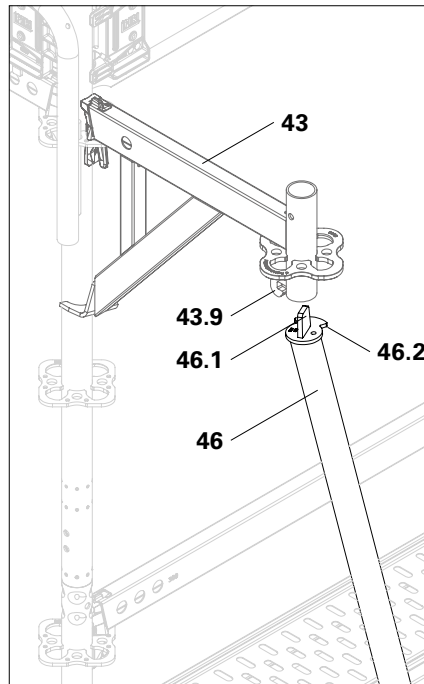
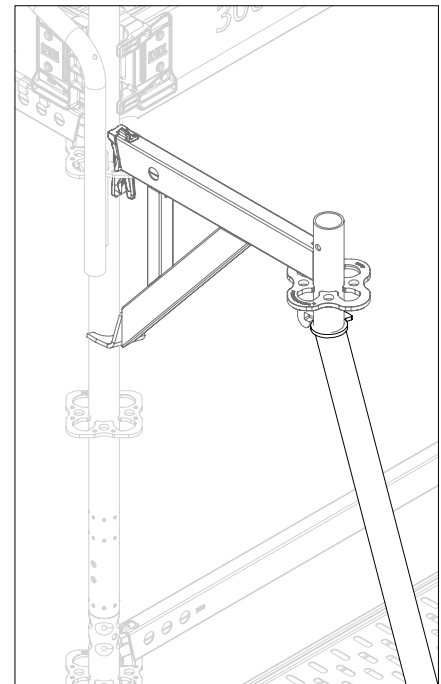

Fig. A6.15a
Fig. A6.15b
3. Insert bracket brace (**46**) with centring lug (**46.1**) from below into the console bracket tube. When doing so, bring the bracket brace up to the console bracket tube at an angle of approx. 45°. (Fig. A6.15a + Fig. A6.15b)